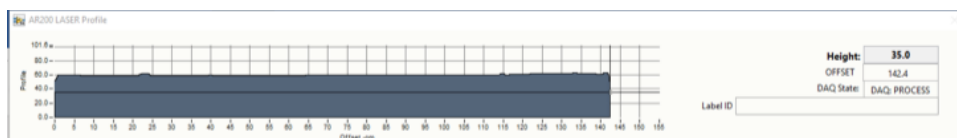

Figure 17. Laser Profile
- a. The sensor assembly will move down the track while the laser acquires a profile of the split surface of the section (Figure 17).